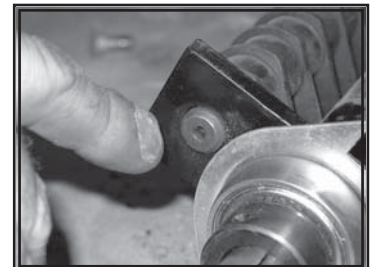

Fig.6: Secure flails, spacers and shaft after replacing components
7. Secure shaft with spring clips. (Fig 6.)